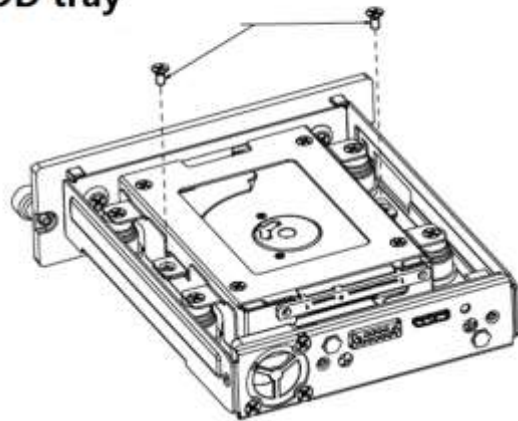

Figure 3-4
Step 3 Unfasten the two screws that secure the HDD bracket and HDD tray. See Figure 3-4.